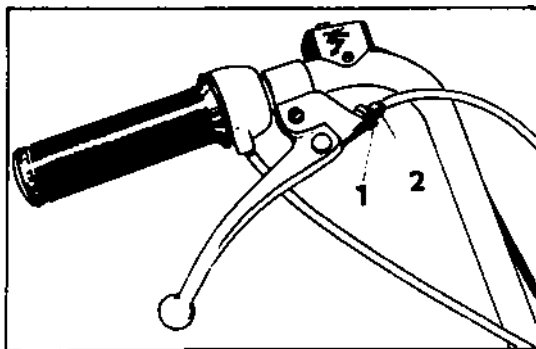
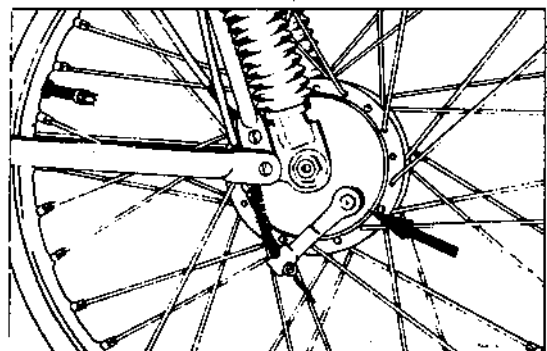

Fig.16 – Front brake adjustment
Fig. 17 – Front brake adjustment
A screw is provided on the handlebars (Fig.16) for adjusting the front brake. First loosen the knurled nut (1) of the brake by loosening or tightening screw (2) so that when pressed (pulled) toward the grip there is a clearance of 20 to 30 mm between the lever and the grip. Then retighten nut (1). When the brake lever can no longer be adjusted by means of set screw (2) adjust the required clearance by means of the brake toggle (Fig.17).